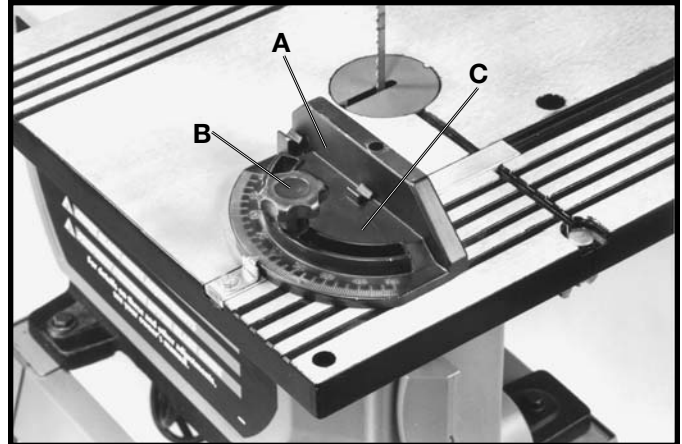

Fig. 41
A miter gage (A) Fig. 41, is supplied with your band saw. The miter gage body (C) can be adjusted up to 45 degrees right and left by loosening lock knob (B), rotating miter gage body (C) to the desired angle, and tightening lock knob (B).